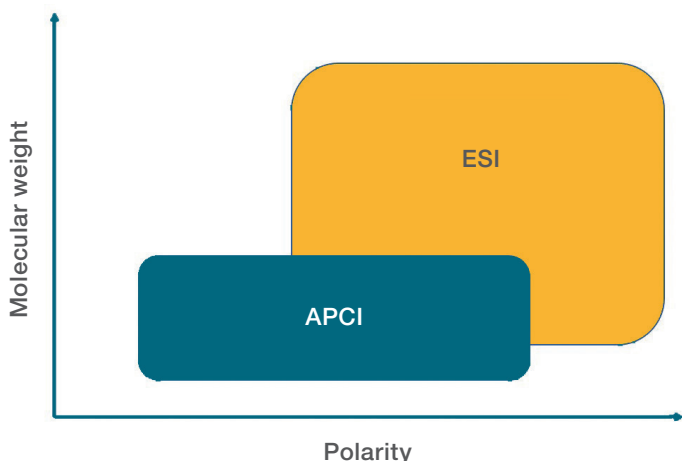

Figure 5. Most commonly used ionization modes with the applicability based on the analyte polarity and molecular weight
With ESI mode, some analyte molecules carry multiple charges since the charge state depends on how many protons a molecule can acquire or shed (e.g., peptides, proteins, oligonucleotides), whereas with APCI mode, only singly charged analyte ions are formed. Table 2 summarizes the favorable ionization mode for different compound classes, and Figure 5 shows that ESI favors mid polar to polar analytes with a wider range of molecular weights, whereas APCI favors low to mid polar and relatively low molecular weight analytes.
Quadrupoles are the most common mass detectors due in part to their simplicity, relatively low costs, and robustness. Quadrupole mass analyzers, as the name suggests, have four metal rods that are placed in parallel. Direct current (DC) and radio frequency (RF) potentials are applied to opposite rods. To detect an ion with a specific  $m/z$ , the DC and RF voltages are set to predefined values. This results in a stable vibratory motion of ions with that distinct  $m/z$ . They pass through the quadrupole, while all other ions have an unstable trajectory and exit through the sides of the quadrupole and are thereby removed (Figure 5). This mode is called selected ion monitoring (SIM) and is similar to measuring absorbance at a specific wavelength using a UV detector. For acquiring a mass spectrum, the DC and RF voltages are ramped through so that different  $m/z$  values are scanned consecutively, resulting in a single scan event. However, the different  $m/z$  are scanned consecutively not in parallel. As a rule of thumb, the scan rate should be chosen so that there are enough data points across a chromatographic peak. Choosing a faster scan speed results in a lower scan time per  $m/z$  window and this may lower the detection sensitivity.